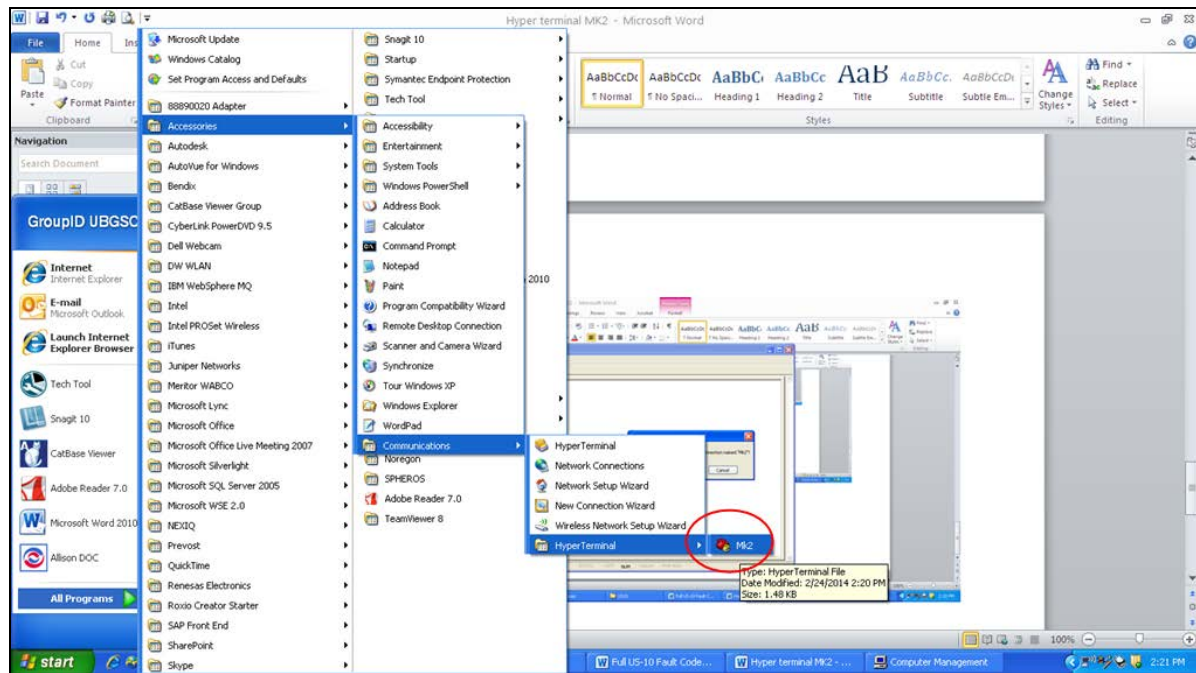

Fig.17
10. Go back to the windows menu; the new connection will appear under HyperTerminal (Fig.17). Create a Desktop shortcut for future use.